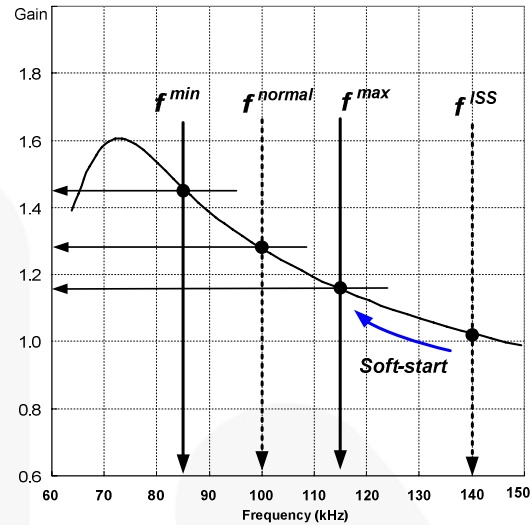
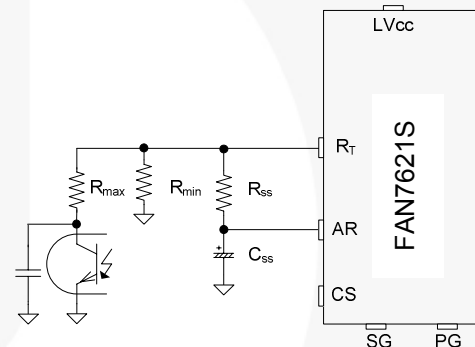

Figure 17. Resonant Converter Typical Gain Curve
Figure 18. Frequency Control Circuit
**3. Frequency Setting:** Figure 17 shows the typical voltage gain curve of a resonant converter, where the gain is inversely proportional to the switching frequency in the ZVS region. The output voltage can be regulated by modulating the switching frequency. Figure 18 shows the typical circuit configuration for  $R_T$  pin, where the optocoupler transistor is connected to the  $R_T$  pin to modulate the switching frequency.
To prevent excessive inrush current and overshoot of output voltage during startup, increase the voltage gain of the resonant converter progressively. Since the voltage gain of the resonant converter is inversely proportional to the switching frequency, the soft-start is implemented by sweeping down the switching frequency from an initial high frequency ( $f^{ISS}$ ) until the output voltage is established. The soft-start circuit is made by connecting R-C series network on the  $R_T$  pin, as shown in Figure 18. FAN7621S also has an internal soft-start of 3ms to reduce the current overshoot during the initial cycles, which adds 40kHz to the initial frequency of the external soft-start circuit, as shown in Figure 19. The initial frequency of the soft-start is given as: